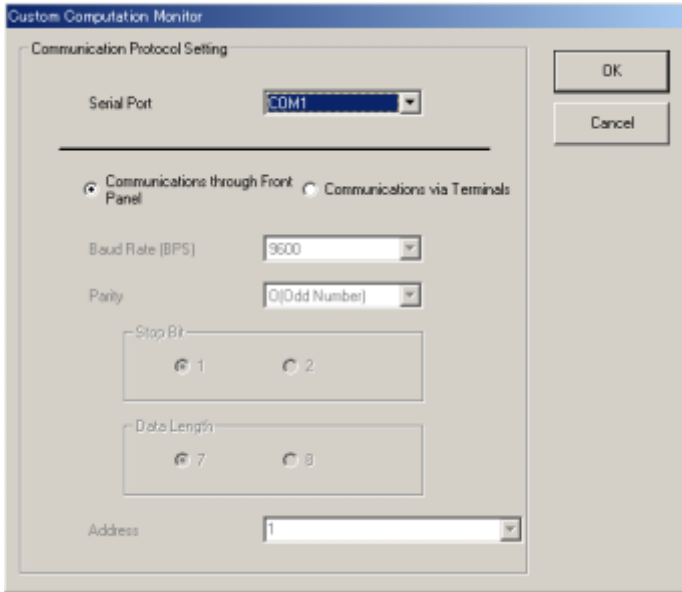

Figure 11.3.1 [Communication Protocol Setting] Dialog Box
- (1) From the tool menus, choose <Communication>, then <Custom Computation Monitor>, then <Output Block>. The [Communication Protocol Setting] dialog box (Figure 11.3.1) appears.